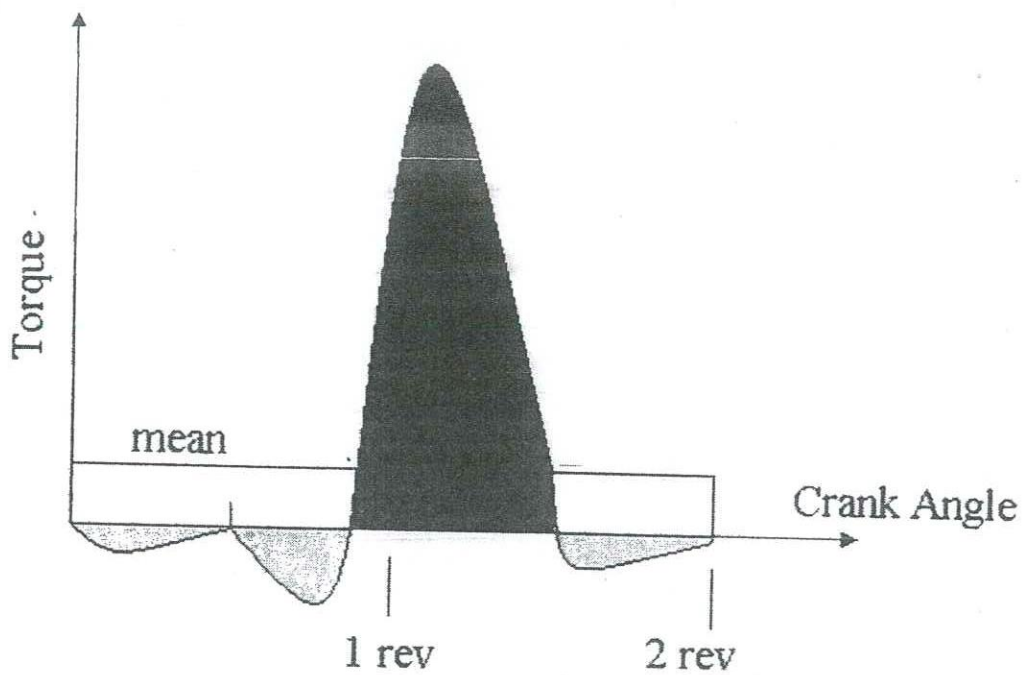

Figure Q5(b)
- (b) Consider a graph (Figure Q5(b)) of torque against crank angle for a typical four (4) stroke engine. It is also indicated the mean torque horizontal line as "mean".